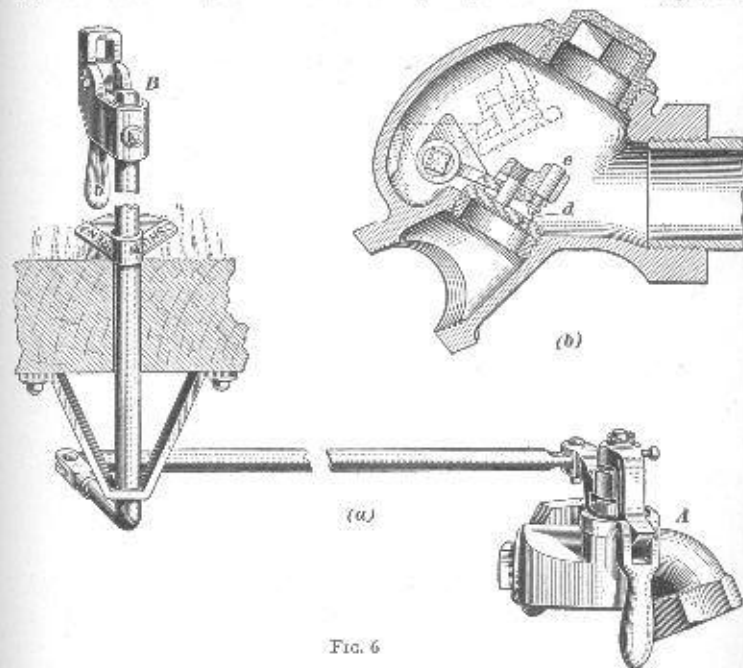

FIG. 6
7. End Train-Pipe Valve No. 105.—An end train-pipe valve that is used with this vapor system of heating, especially on vestibule cars where it is desired to operate the valve from the platform of the vestibule, together with the platform operating attachment, is shown in Fig. 6 (a). In the figure, *A* is the end train-pipe valve, and *B* the platform operating attachment by means of which the valve is operated from the platform. The train-pipe valve also may be operated by the handle on the valve itself under the end of the car. When the platform handle *b* is turned to the position marked *Open* on the indicator plate, the end train-pipe valve is open; when the handle stands at *Shut*, the valve is closed. It is changed from open to shut or vice versa with about a quarter turn of the handle. Turning the handle in the direction that a screw-driver is turned to tighten a screw, closes the valve. Turning the handle the reverse way opens the valve. When in either open or shut position, the train-pipe valve is locked in that position by turning the handle down as shown in Fig. 6 (a).
20. Regulation of End Train-Pipe Valves.—From Fig. 6 it will be seen that the No. 105 train-pipe valve can be operated either by the platform handle or by the handle on the valve itself. Also, this is true for the No. 104 valve. The open